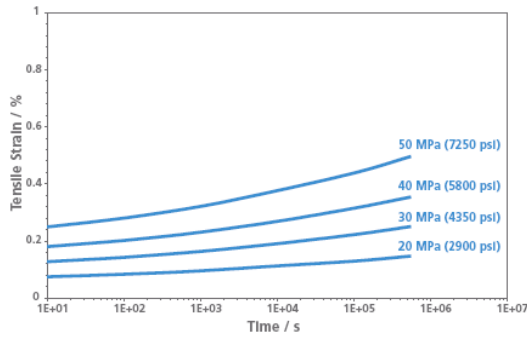
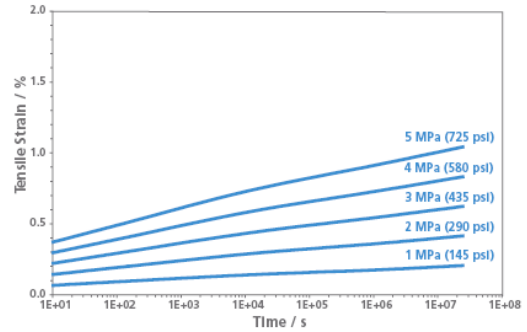

Figure 2: Strain vs. Time for 450CA30 CF/PEEK
Figure 3: Strain vs. Time for 450G PEEK
Figure 2 (ref 2) displays tensile strain vs. time for a 30% carbon fiber filled PEEK (CF/PEEK) at a temperature of 150°C. The static tensile strength for this material at 150C is 100 MPa. Figure 3 (ref 2) gives tensile strain vs. time for a unfilled PEEK at a temperature of 150°C. The static tensile strength for this material at 150C is 45 MPa. If the 20 MPa curve (20% of ultimate) on Figure 2 is compared to the 5 MPa curve (11 % of ultimate) on Figure 3 we can see the effect fiber fill has on creep. Essentially, the creep rate (strain/time) is 0.000408 %/hr and 0.00315 %/hr for the CF/PEEK and unfilled materials respectively. **This represents a 770% decrease in the creep strain rate for the CF/PEEK.**